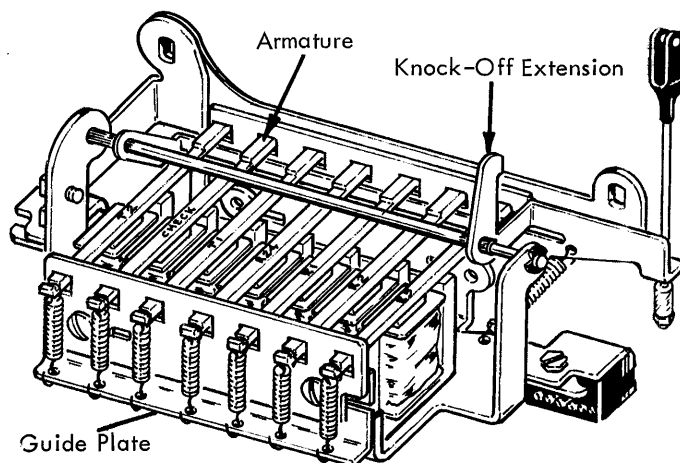

FIGURE 34.1 Magnet Assembly
NOTE: The late style magnet assembly may be identified by the absence of pivot eccentrics, and the single knock-off extension (Fig. 34.1).
1. Guide Plate (Fig. 34.1) - The position of the guide plate is predetermined by holes which fit over stamped projections on the pivot plate.
- c. Apply slight pressure to the knock-off extension (Fig. 34.1).
- d. Apply slight pressure to the T-2 and R-5 armatures (Fig. 34.1). Both armatures should be touching the trip bail. If not, form the left trip bail support to obtain this condition.